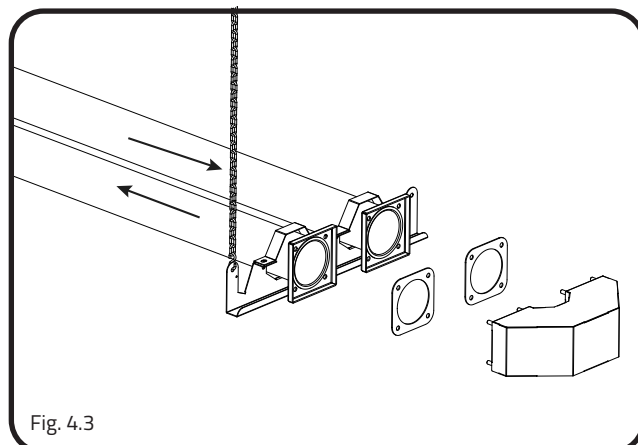

Fig. 4.3
1. **For all models**, fasten the pipe flanges to the elbow flanges using the set of bolts, washers, and nuts. Be sure to place a gasket between the flanges, as shown in FIG. 4.3.